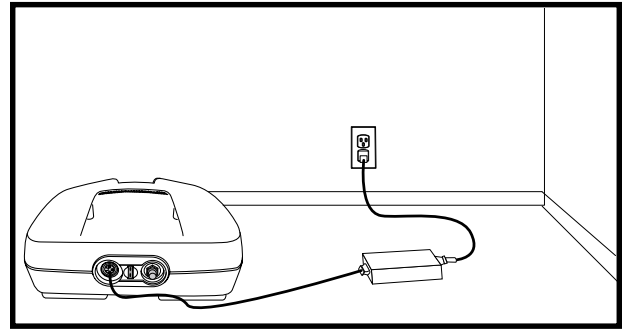

Figure 10. Charging The Batteries (Battery Pack Removed)
1. Position your Travel Scooter or battery pack close to a standard electrical outlet. **See figure 10.**